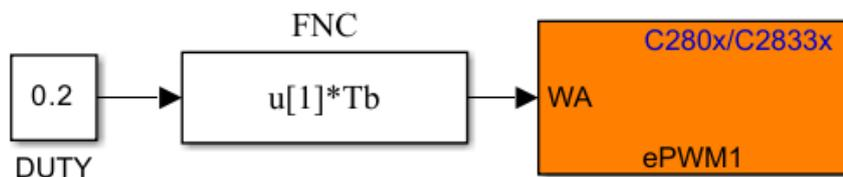

Figure 2: Basic schematic of the ADC-PWM on MATLAB
- Initially, the duty cycle value may be fixed or configured for static tests (see the figure above Figure 2). Your goal is to make it dynamic, controllable via the ADC signal.